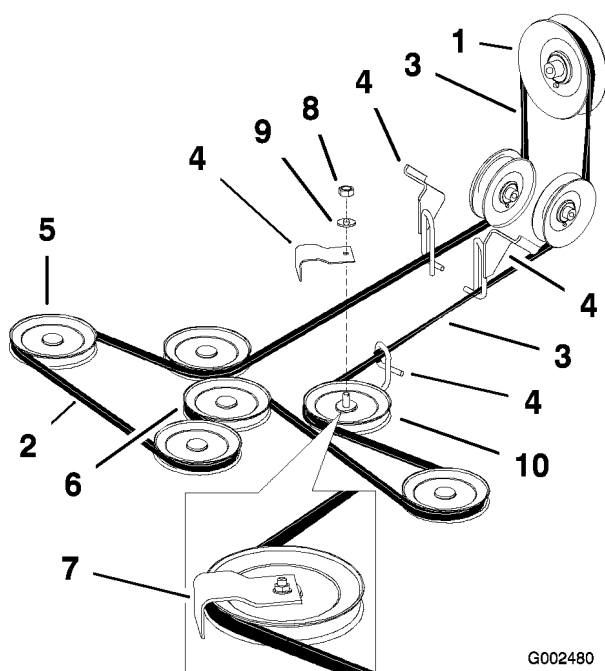

Figure 47
4. Loosen the nut securing the idler plate and move the idler plate to relieve the belt tension on the idler pulley (Figure 47).
6. Remove the mower belt from the belt guides and remove the belt (Figure 47).
7. Install the new mower belt around the mower spindle pulleys, mower idler pulley, into the belt guides, into rear idler arm assembly, and the clutch (Figure 47).
Note: Check the amount of twist in the belt between the pulleys. Ensure it is only what is specified in Figure 47.
Important: Check the amount of twist in the belt between the pulleys. Make sure it is only what is specified in Figure 47.